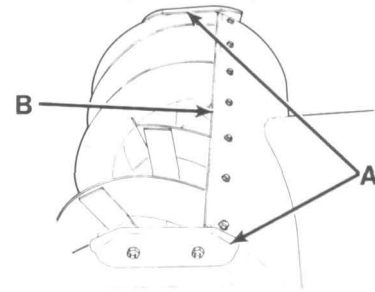

Figure 4-1
5. Check the skid shoe (Figure 4-1, Item A) adjustment. See "Skid Shoes" in Section 3.
6. Check the scraper blade (Figure 4-1, Item B) for wear and adjustment.